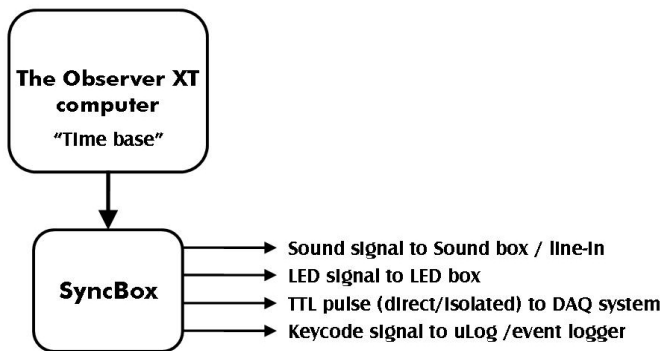

Figure 6 Schematic overview of the different types of signals that can be sent out with the SyncBox.
The SyncBox is triggered by The Observer XT to send out different types of signals at exactly the same time to one or more external applications, based on the clock of The Observer XT computer. Simultaneously, a time stamped trigger comment is recorded in The Observer XT (see Figure 6 on page 14). After import of the different data streams into The Observer XT, you can use the trigger comment and the recorded signals to manually synchronize the observational and external data. By doing this, you can determine the difference in offset and set this in The Observer XT as a delay. Subsequently, an observation and external applications will start synchronously. Furthermore, when you trigger the SyncBox to send out a series of signals during a longer period of time, you can use these multiple trigger events to correct for your (long) observation and the external applications/devices running out of sync.
1. Determine what type of signals you want to send out with the SyncBox (see Figure 6 below and SyncBox signals on page 10).